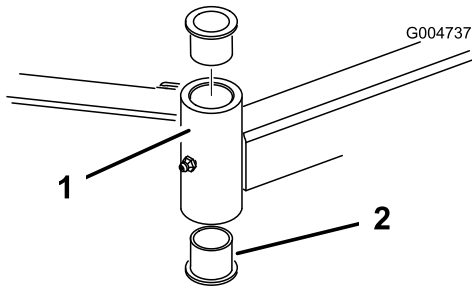

Figure 111
4. Insert a pin punch into the top or bottom of the mounting tube and drive the bushing out of the tube (Figure 111).